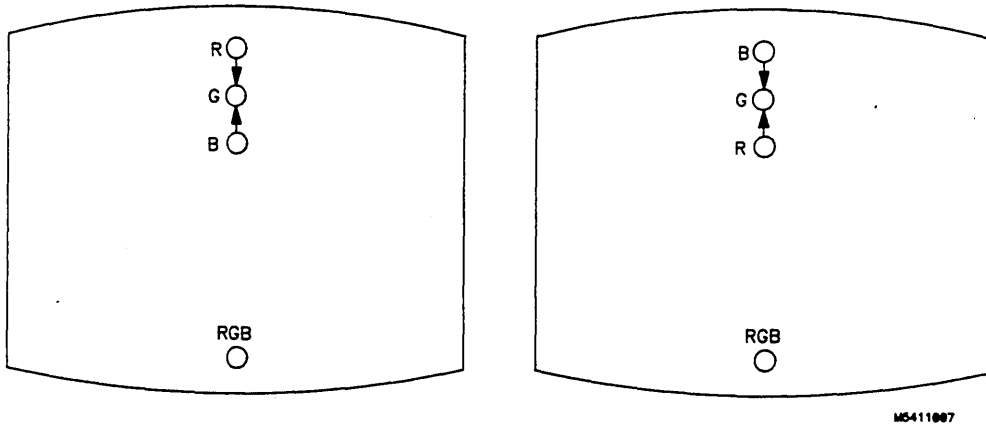

Figure 4-21. V.STAT TOP Adjustment.
4. Adjust V.STAT TOP (RV801) and V.STAT BOTTOM (RV802), located on bottom PC board, to obtain coincidence of red, blue, and green at intersection of top and bottom horizontal lines with center vertical line (see figures 4-21 and 4-22).